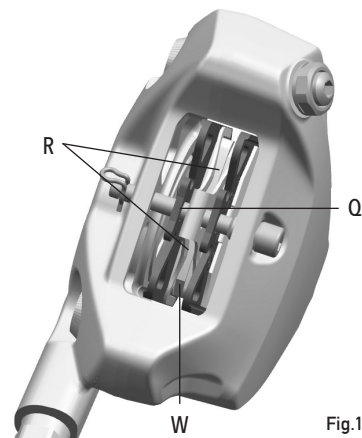

Fig.11
For each pad, check that the W pad wear indicator (Fig.11) is present, that the pad is properly positioned with the metal support Q (Fig.11) in contact with the piston, and that the R friction area of the pad (Fig.11) is in contact with the disc. If this is not the case, consult a qualified mechanic or a Campagnolo Pro Shop (as indicated in Chapter 2 - "INFORMATION AND TECHNICAL SUPPORT").
**Caution:** Use in wet, muddy, sandy or dusty conditions may drastically reduce the lifetime of the brake pads, causing earlier wear than if they were used on clean asphalt roads. As such, it is important to check very frequently that the W brake wear indicator (Fig.11) is visible on the pads. If it is not visible, ask your mechanic to replace the pads.